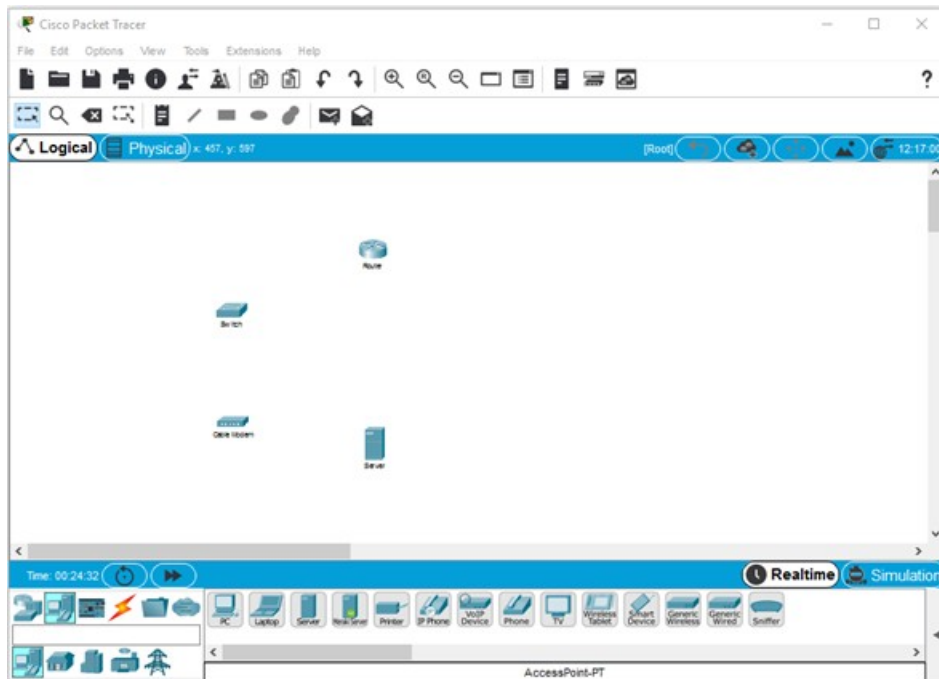

Figure 6.18: Adding Cabling to Devices in the Logical View
- If you wish to cable these devices, temporarily switch to **Logical View** (Figure 6.18) to easily connect the interfaces. Then return to the **Physical View** to see the cables in the